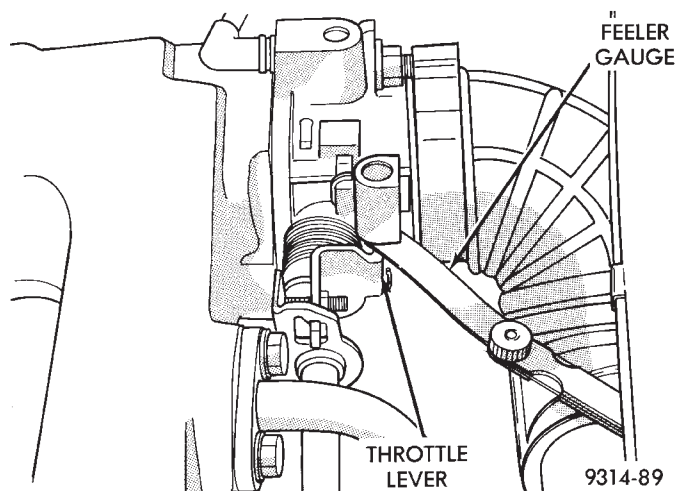

Fig. 11 Idle Speed Screw
(1) Install .004 inch feeler gauge between the idle speed screw and throttle lever on the right throttle body (Fig. 11).